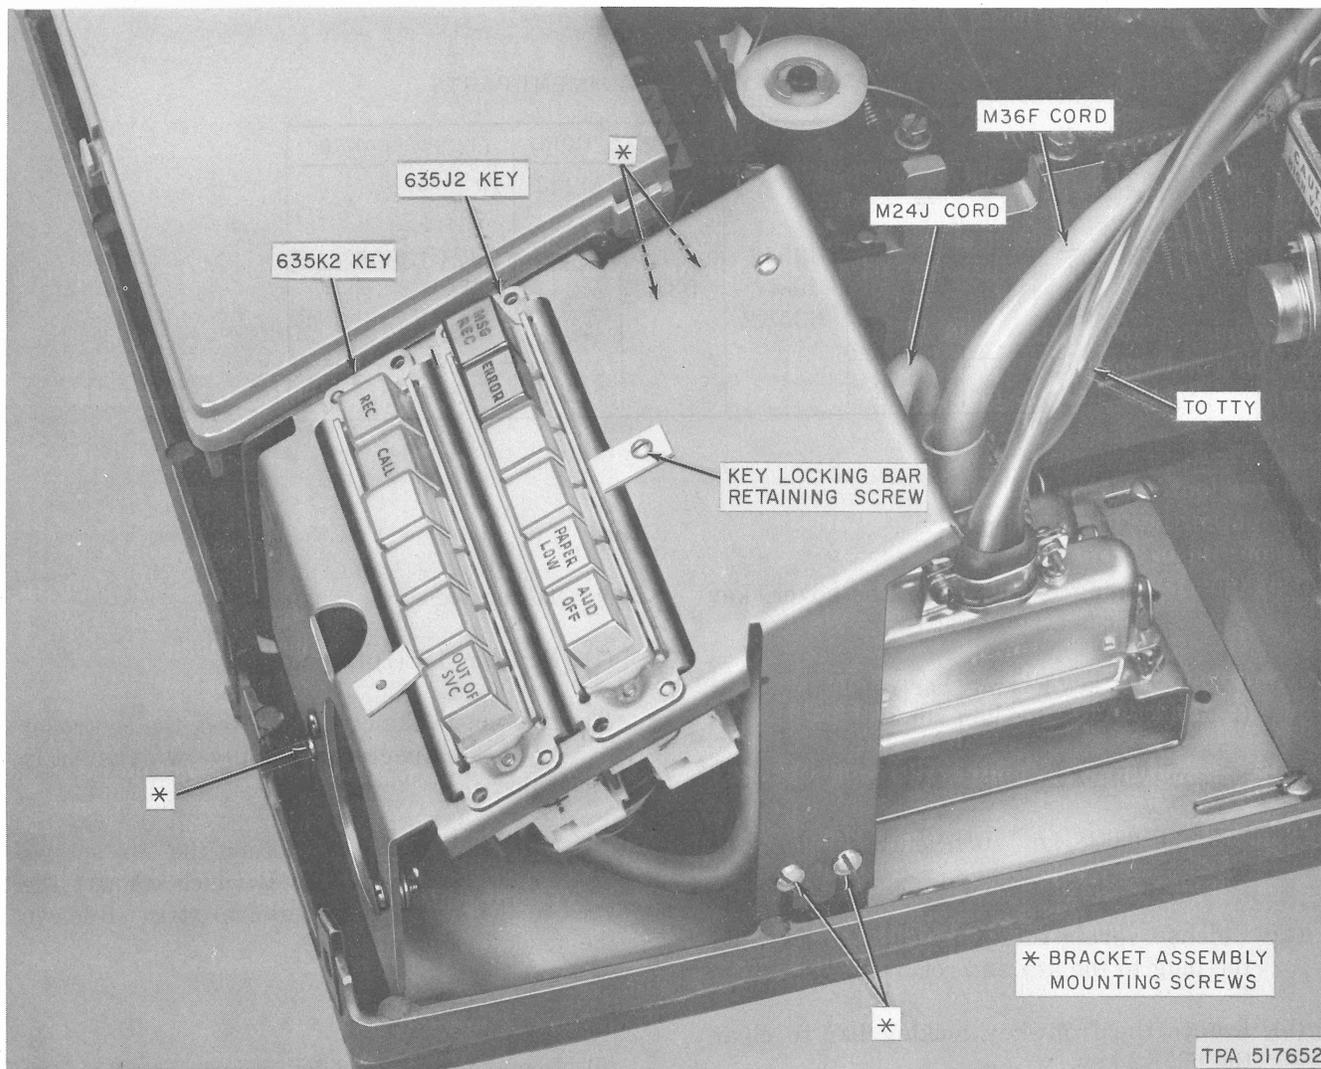

Fig. 7—DAS 804N2 Mounted in 33 RO TTY
- (1) Loosen the key-locking bar retaining screw (Fig. 7) on the attendant set.
- (2) Remove cord-retaining screw and nut.
- (3) Lift the 635J2 key sufficiently to clear the bracket.
- (4) Release spring-retaining clips which hold the plug to the key and remove plug.
- (5) Rotate the front-key locking bar to clear the 635K2 key.
- (6) Lift the 635K2 key sufficiently to clear the bracket.
- (7) Release spring-retaining clips which hold the plug to the key and remove plug.
- (8) Connect plugs to the 635K2 key and 635J2 key to be installed and fasten the spring-retaining clips.
- (9) Lower keys into bracket. Slide in and seat the 635K2 key into the keying pins.
- (10) Seat the 635J2 key in the keying pins and replace the key-locking bar retaining screw.
- (11) Replace cord-retaining screw and nut.
- (1) Remove the DAS 804N-type attendant set by removing the four screws on the mounting plate.
- (2) Loosen, but do not remove, the five bracket assembly mounting screws (Fig. 7).
- (3) Lift bracket assembly sufficiently to clear mounting screws.
- (4) Turn the attendant set over to expose TS B.